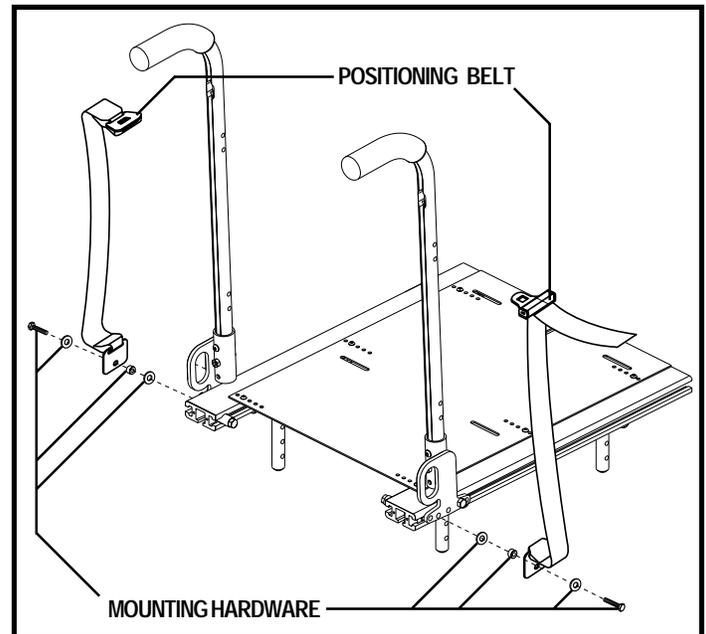

Figure 23. Positioning Belt on Synergy Seat
An auto-type positioning belt is available for your power chair as an optional accessory. The positioning belt is designed to support the operator so that he/she does not slide down or forward in the seat and can be adjusted for operator comfort. The positioning belt is not designed for use as a restraining device. See figure 23.
1. Install the supplied mounting hardware to the positioning belt for each side of the seat. See figure 23.